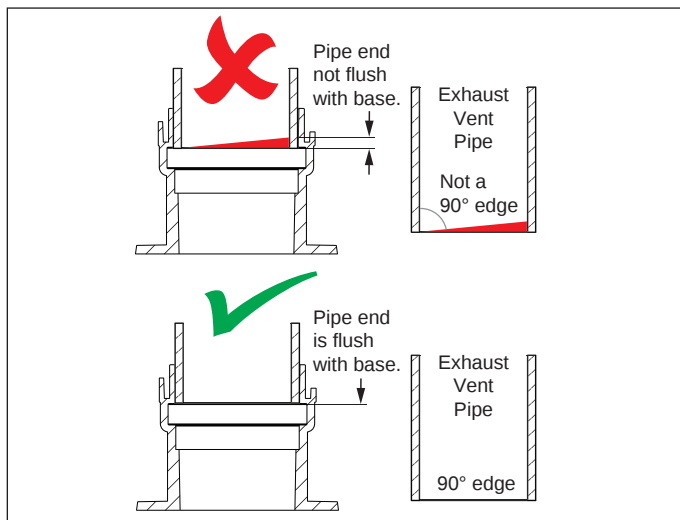

Figure 14 - Insert Straight Pipe
- Insert 2 inch straight pipe into the exhaust/intake ports until fully seated (Figure 14). The pipes will insert at a minimum of 1.5 inches (38 mm).